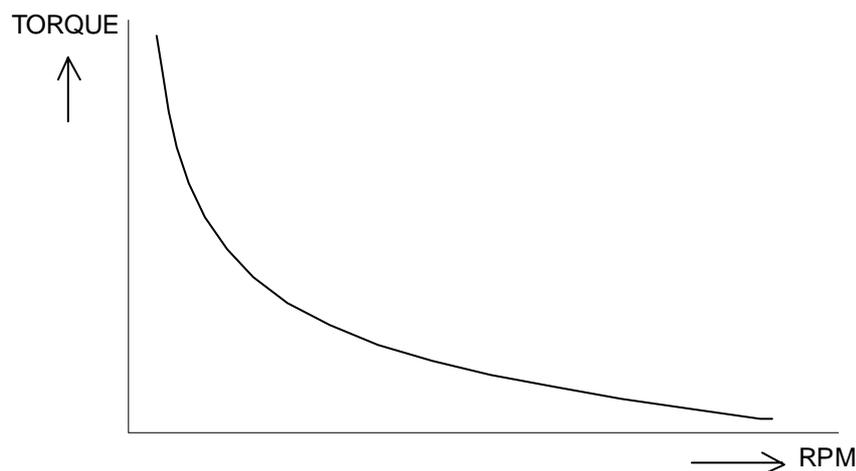
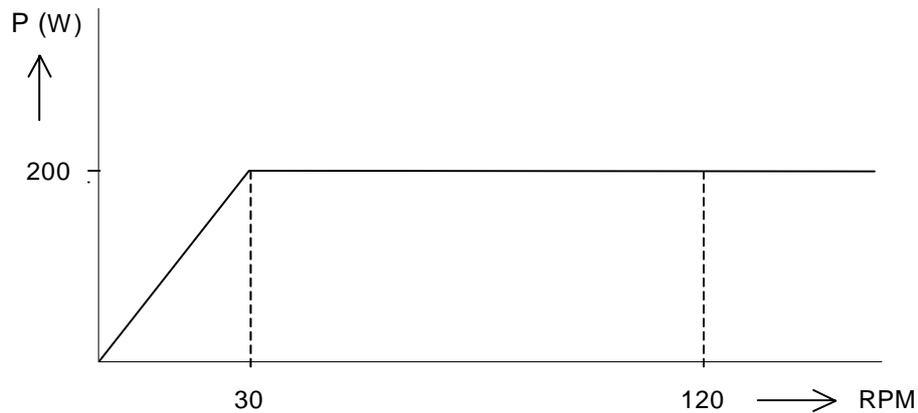

Fig 1: Hyperbolic ergometry
Fig 2: Hyperbolic ergometry: at a pedaling speed between 30 – 150 RPM the workload is constant 200 W.
Hyperbolic Ergometry: The name hyperbolic ergometry refers to the curve between the pedaling speed (RPM) and the torque (T). This curve has the shape of a hyperbole (see Fig. 1 Hyperbolic ergometry). As a result from this hyperbolic relation the workload (W) is independent of the RPM in a special area (see Fig. 2).